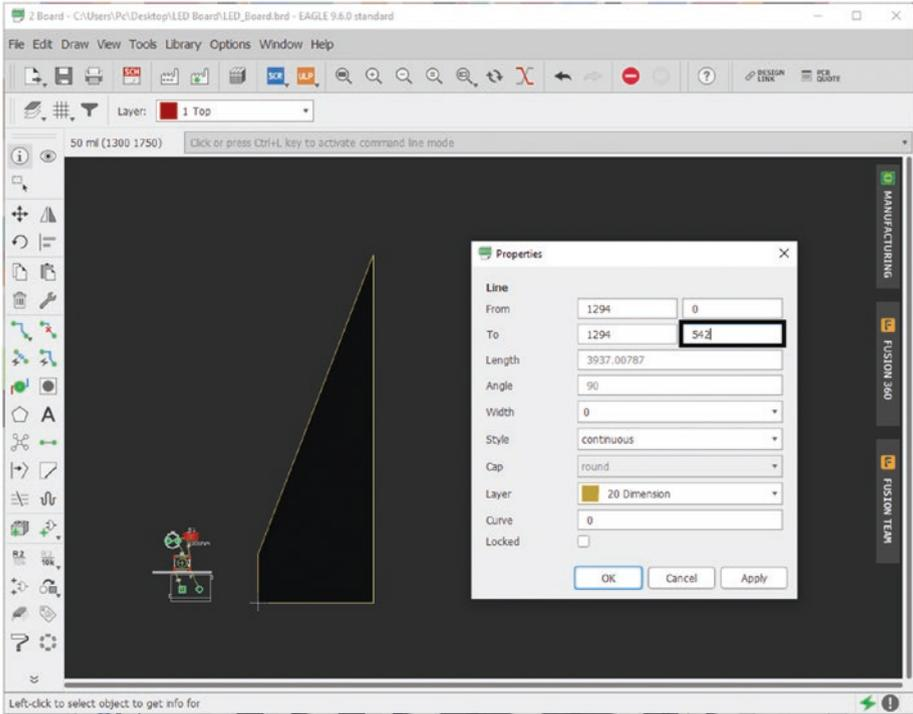

Figure 5-62. Update right vertical line value
11. Type 542 into the second box next to “To,” and you now have the dimensions for the PCB. See Figure 5-62.